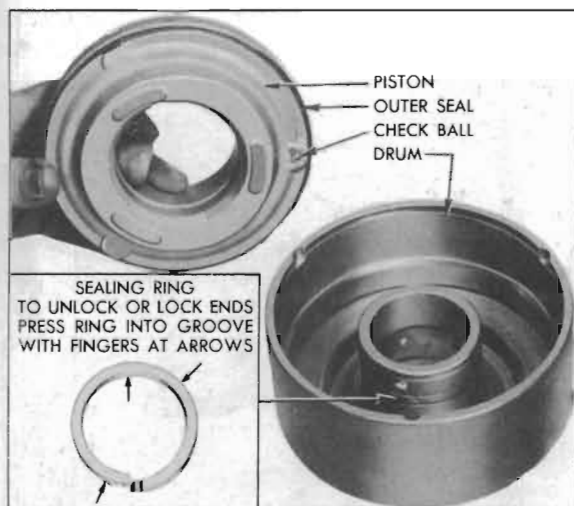
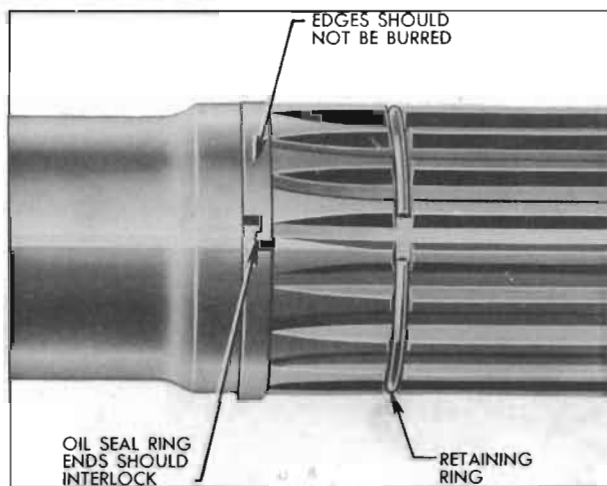

Figure 4-112—Removal of Clutch Piston and Oil Sealing Ring
Figure 4-114—Input Shaft Oil Seal and Retaining Rings
3. Inspect drum for cracks or scores. Inspect oil sealing ring on hub of drum and replace it if damaged. To remove ring, apply finger pressure at points indicated by arrows in figure 4-112, in order to unlock the ends by depressing one end
7. Inspect the input shaft oil seal ring and if damaged or broken replace it as shown in figure 4-112. Make sure that retaining ring is in place on shaft. See figure 4-114.